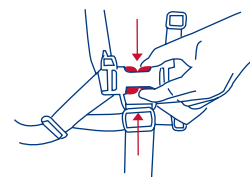

Fig. 17b
- To release, apply pressure to both sides of each male clip until the clip is released. See figure 17b. This process requires a moderate amount of effort so as to prevent an accidental release by your child.